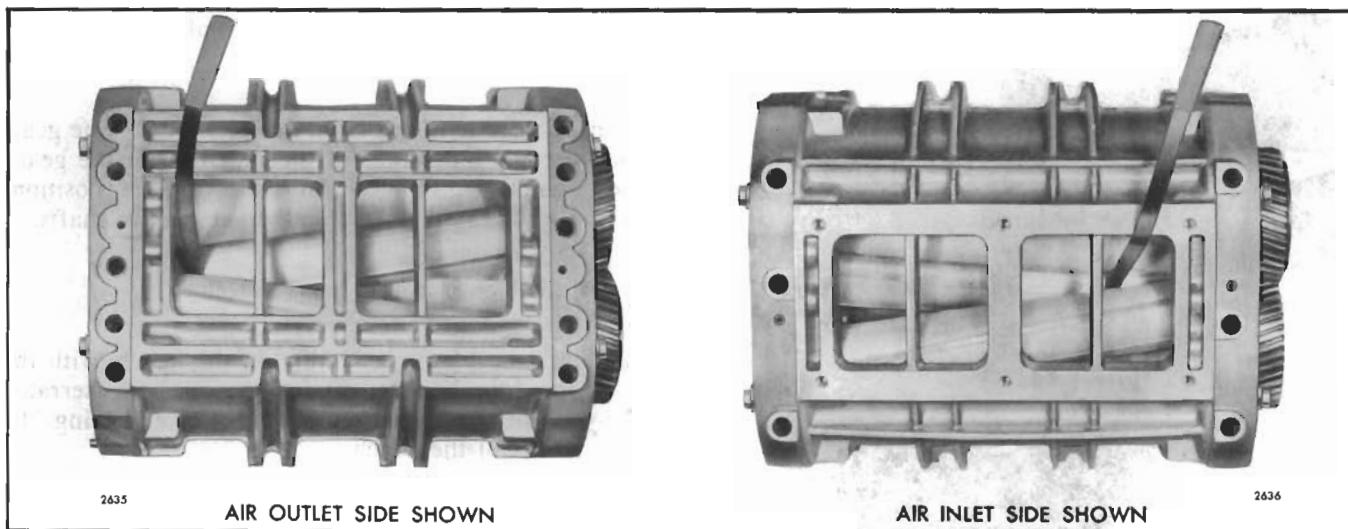

Fig.19 - Measuring "CC" and "C" Clearance Between Blower Rotor Lobes
4. The clearance between the rotor lobes may be checked with 1/2" wide feeler gages in the manner shown in Fig. 19. When measuring clearances of more than .005", laminated feeler gages that are made up of .002", .003" or .005" feeler stock are more practical and suitable than a single feeler gage. A specially designed feeler gage set J 1698-02 for the blower clearance operation is available. Clearances should be measured from both the inlet and outlet sides of the blower.
5. Refer to Figs. 19 and 20 and time the rotors to the specified clearance between the *trailing* edge of the right-hand helix rotor and the *leading* edge of the left-hand helix rotor ("CC" clearance) measured from both the inlet and outlet sides. Then check the clearance between the *leading* edge of the right-hand helix rotor and the *trailing* edge of the left-hand helix rotor ("C" clearance) for the minimum clearance. Rotor-to-rotor measurements should be taken 1" from each end and at the center of the blower.